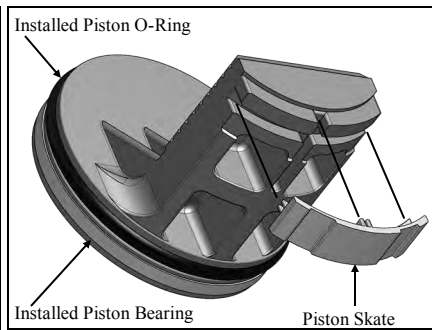

Fig. 9.2
- b. Pistons: On each piston install the bearing, O-Ring, and skate. (Fig. 9.2)